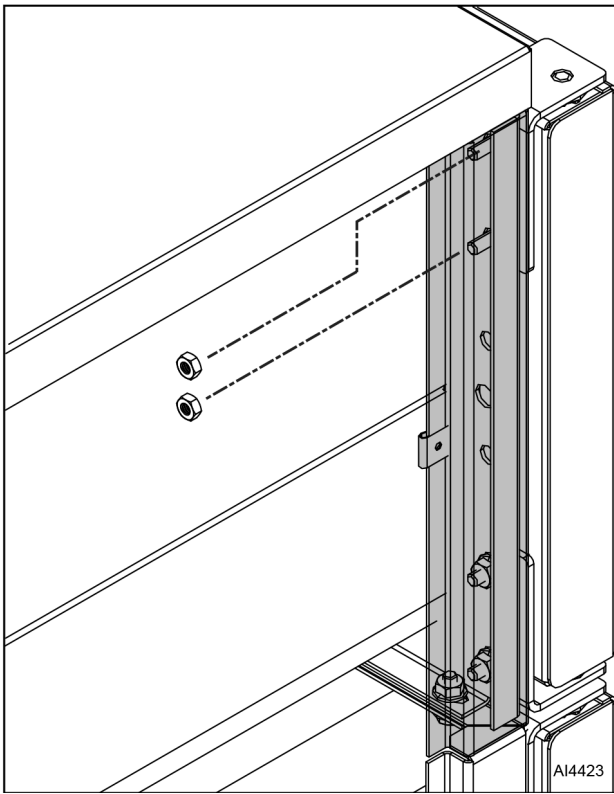

Fig. 10
3. Remove nuts (Fig. 10) from upper hinge located inside front panel.